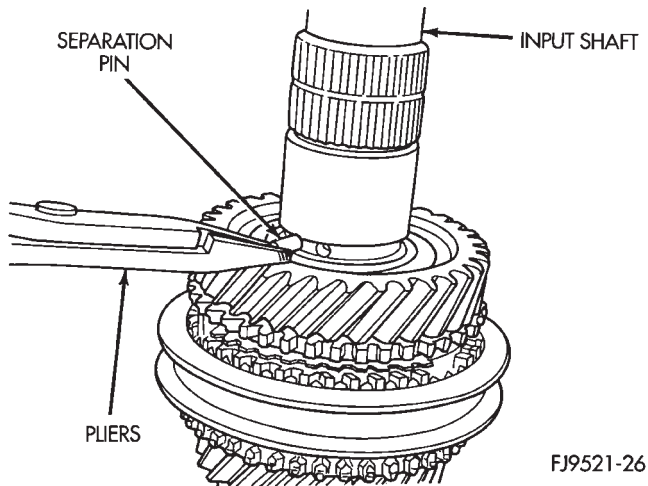

Fig. 93 Split Thrust Washer Separation Pin
(6) Remove split thrust washer separation pin (Fig. 93).